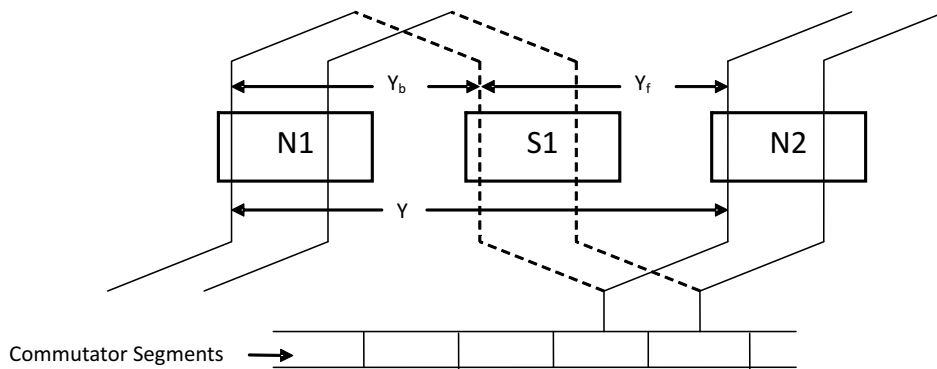

Fig.3.10 - Wave winding
3.9 WAVE WINDING: When the finishing end of the first coil is connected to the starting end of the next coil, as shown in Fig. 3.10, which starts from the next adjacent pole where the first coil started is known as wave winding.
From Fig. 3.10, for wave winding, the front pitch, $Y_f = Y - Y_b$ 3.21
From Fig. 3.10 or from equation 3.21, front pitch, $Y_f = 26 - 13 = 13$ (odd integer).